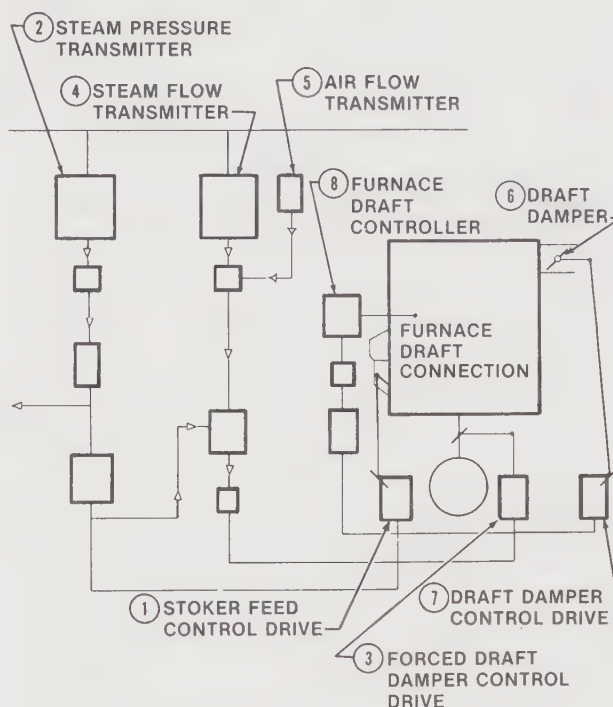

Figure 8-12. Metering control systems in a coal-fired system are used to regulate the amount of coal going to the stoker.
In automatic operation of the coal stoker fired system, the metering control system functions in the following manner. See Figure 8-12. The stoker feed control drive (1) regulates the amount of coal going to the stoker and is controlled by a signal from the steam pressure transmitter (2). The forced draft damper control drive (3) is controlled by a signal from the steam flow transmitter (4), steam pressure transmitter (2), and air flow transmitter (5). The outlet draft damper (6) is controlled by the outlet draft damper control drive (7), which receives its signal from the furnace draft controller (8) to regulate the flow of the gases of combustion.